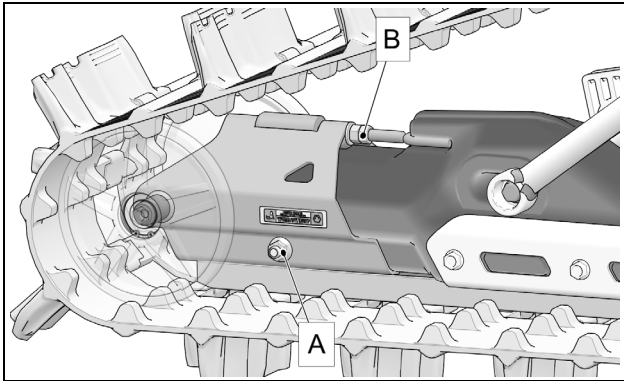

Figure 23
CAUTION: Track Tensioner assembly bolt (A) and jam nut (B) must be loosened before adjusting track tension. Figure 23.